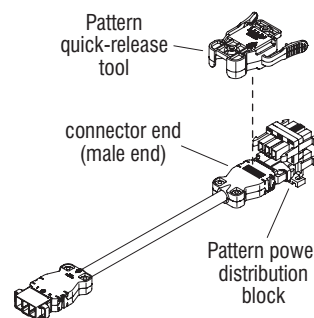

Figure 3
1. Snap the Pattern quick-release tool over the male end of the power infeed or power jumper connector end attached to the Pattern power distribution block (Figure 3).